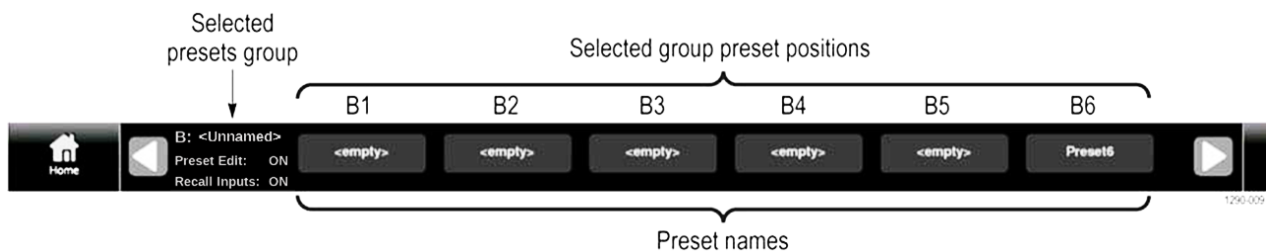

Figure 71: Preset selection controls (Group B shown)
3. Select the **Presets** icon (★) to open the Preset selection menu at the bottom of the PRISM display. (See Figure 71.)